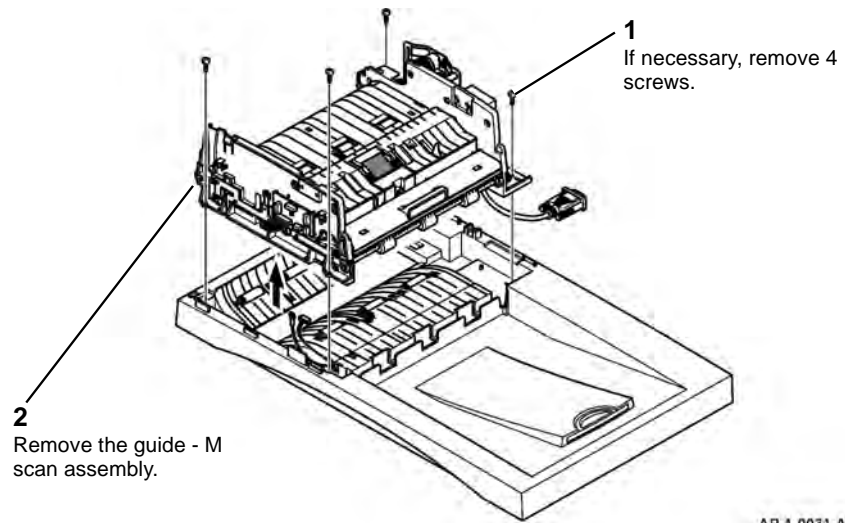

Figure 13 Guide - M scan assembly removal
14. Remove the guide - M scan assembly, Figure 13.